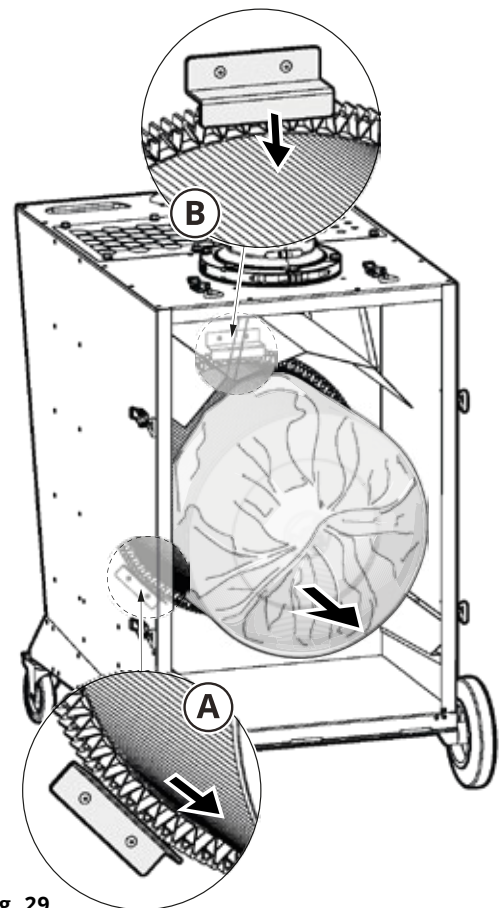

Fig. 29
7. Remove the filter with the filter bag (**Fig. 29**) and place it on the floor with the filter end facing down.